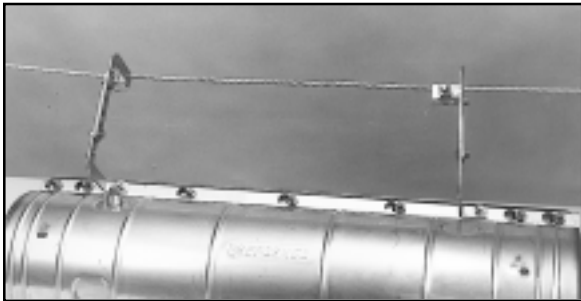

FIGURE 4 - ATTACH TO MESSENGER STRAND
3.05 Position the messenger strand within the groove of the strand clamps and tighten. (Figure 4)